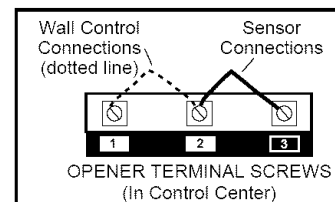

Figure 3
7. Connect the wall control wire to the opener terminal screws: white to 2 and white/red to 1. (See Figure 3.)